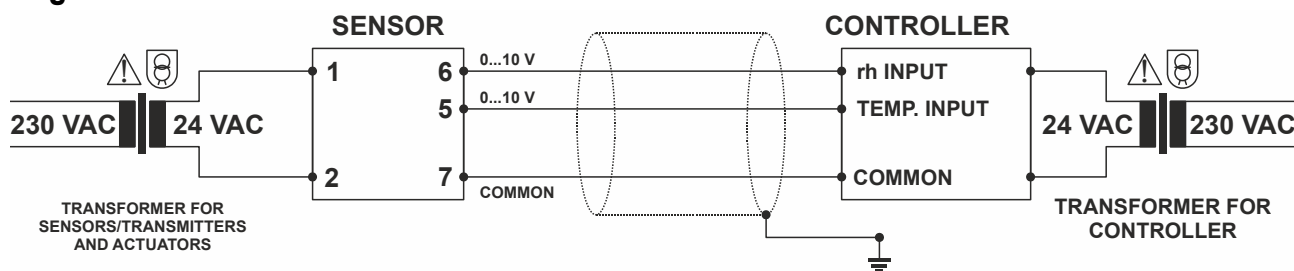

Fig. 1. Wiring example, H7508B1060
**NOTE:** Use two separate safety transformers, one for sensors/transmitters and actuators and one for the controller (see Fig. 1).